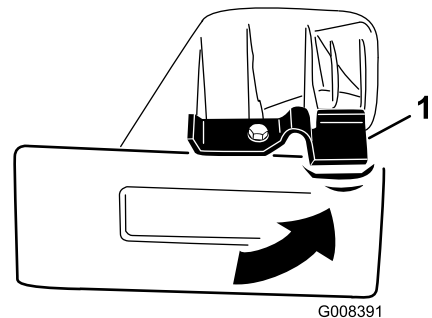

Figure 21
3. Rotate the lock counterclockwise on the mulch plug to the unlocked position (Figure 21).